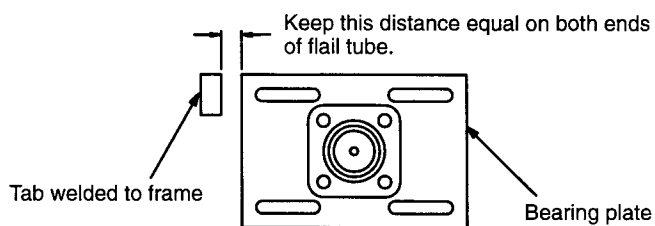

Figure 37 Reference Tabs
- a. 6-Row and smaller units (no center hanger bearing): Adjust both ends of flail tube equally so that flail tube is parallel to cross drive shaft and defoliator frame. Measure from tabs welded to frame. See Figure 37.